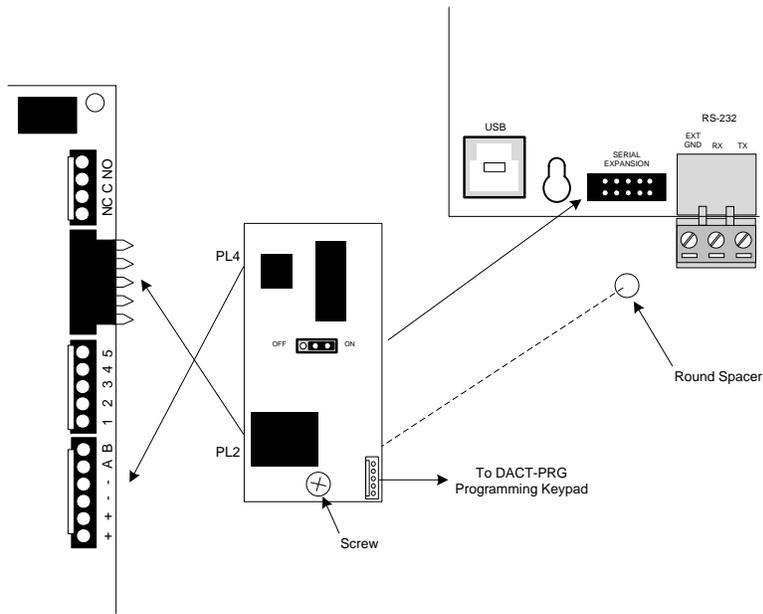

Figure 32 - NX-SEB to D9068P Wiring
**Note: All D9068P DACT programming (i.e. communications protocol, primary and secondary phone numbers, etc.) must be done with a DACT-PRG (Bosch – FMR-DACT-KEYPAD) programming LCD and keypad. To program the D9068P the DACT-PRG LCD keypad must be plugged into the NX-SEB serial expansion board (see figure 32).**
Plug the NX-SEB, Serial Expansion Board, into the expansion socket and install/tighten the supplied screw to the round spacer (see figure 32).
Plug the 6 pin ribbon cable coming from the NX-SEB (PL4) into the RS-232/power input connection on the D9068P. Plug the 5 pin ribbon cable coming from the NX-SEB (PL2) into the DACT-PRG keypad input connection on the D9068P, this connection allows the DACT-PRG to be connected to the NX-SEB board for D9068P programming (see figure 32)